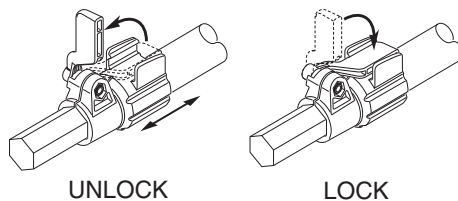

Figure 12 - Extending Telescopic Pole
1. To extend the pole, unlock the clamping lever as shown in Figure 12. Pole will slide freely.
3. To lock pole in position, tighten clamping lever as shown in Figure 12.